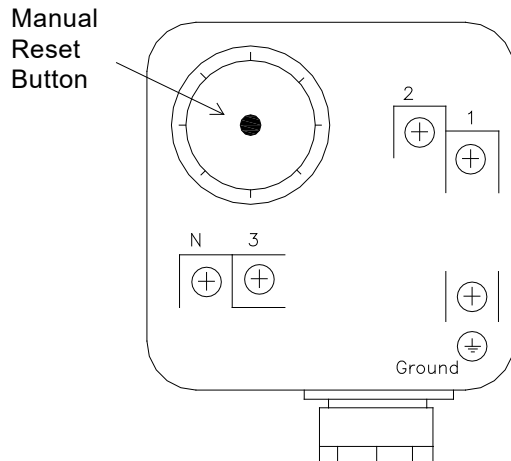

Figure 22: High/Low Gas Pressure Switch
12. If the high or low gas pressure switch tripped, it must be manually reset before the appliance can be restarted. (See Figure 22)